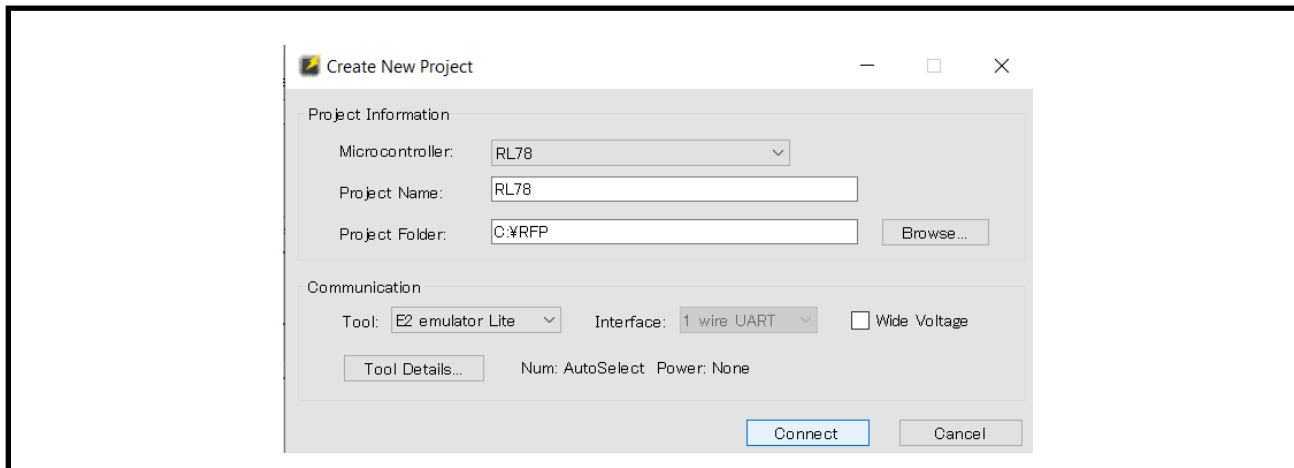

Figure 5-5 Create New Project (RAJ306102)
2. Execute Renesas Flash Programmer, then connect from menu "File" > "New Project..." in reference to **Figure 5-5**. *Note.1*